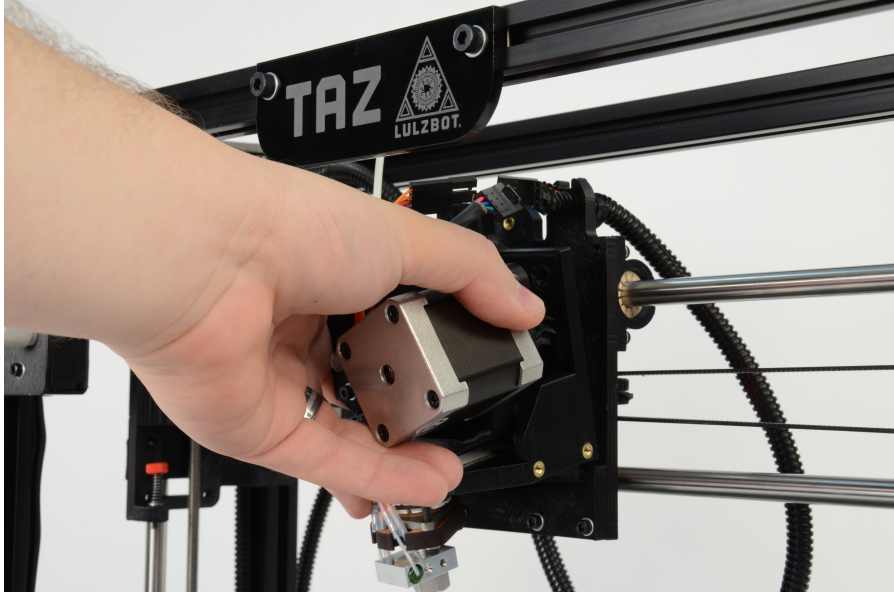

Figure 1.12: Mount the extruder tool head
9. Move the X axis carriage to the center of the smooth rods. If you have not already done so, remove the foam from between the X axis carriage and the left hand X axis end. Locate and remove, with the included 2.5mm hex driver, the tool head M3 screw in top center of the X axis carriage (Fig. 1.11, page 24). Place the extruder tool head mount onto the X axis carriage bottom first. The extruder mount will slide into the bottom portion of the carriage and self center (Fig. 1.12, page 25). Make sure that the tool head mount is fully seated. Use the 2.5mm driver and the previously removed M3 screw to secure the extruder tool head onto the X axis carriage.